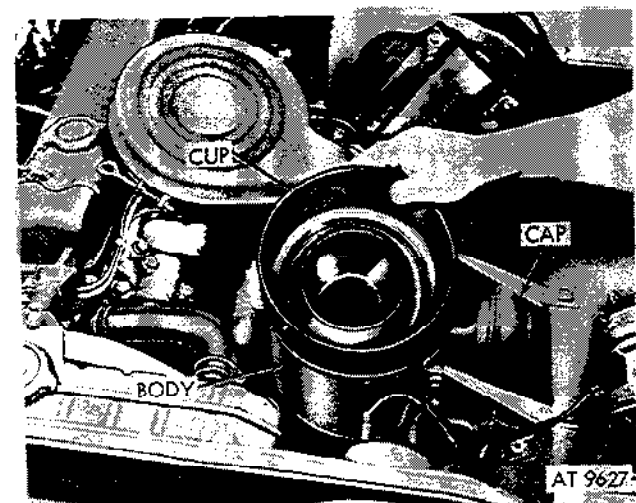

Figure 2-86. Lift out cup and discard oil.
(3) Lift out oil cup (fig. 2-86). Discard used oil. Clean oil cup, air cleaner element, and air cleaner body, using dry-cleaning solvent or miner spirits paint thinner.